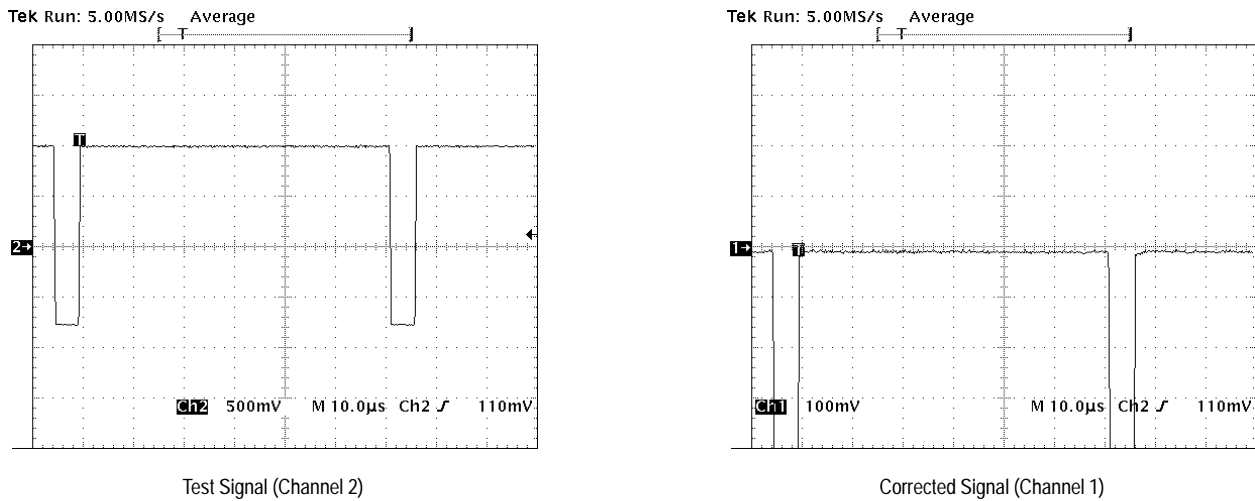

Figure 7: Back Porch Correction Check (Negative)
6. Verify that the positive portion of the pulse is within ± 14 mV of the ground reference (see Figure 7).